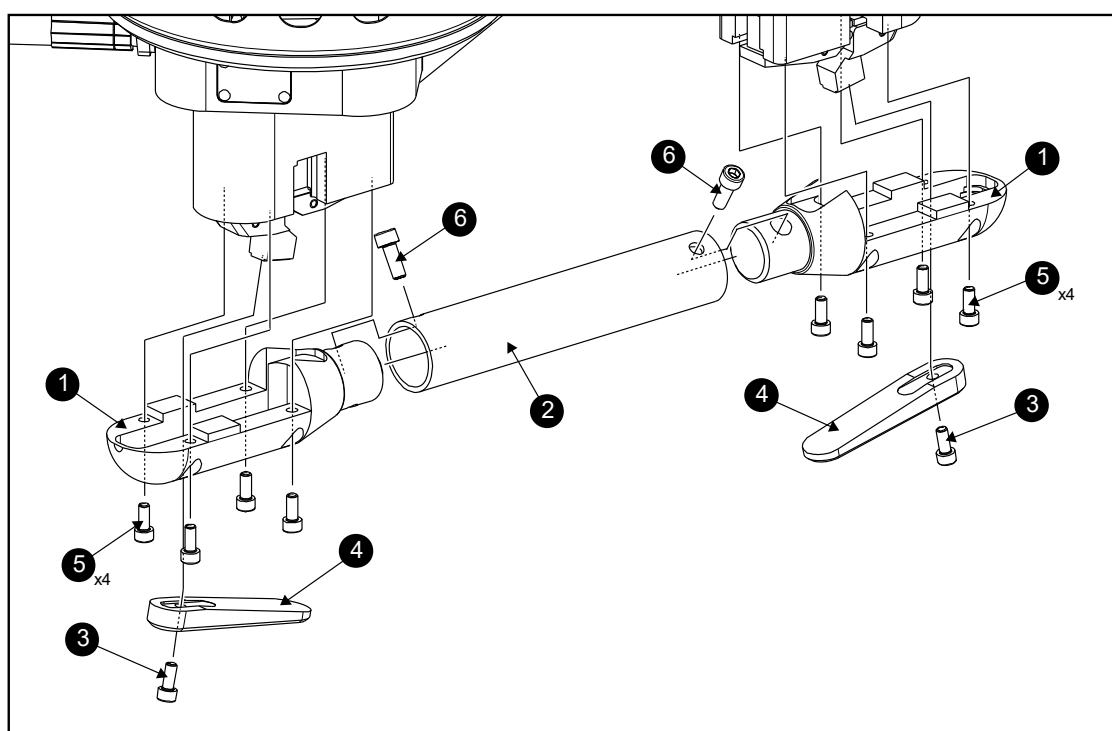
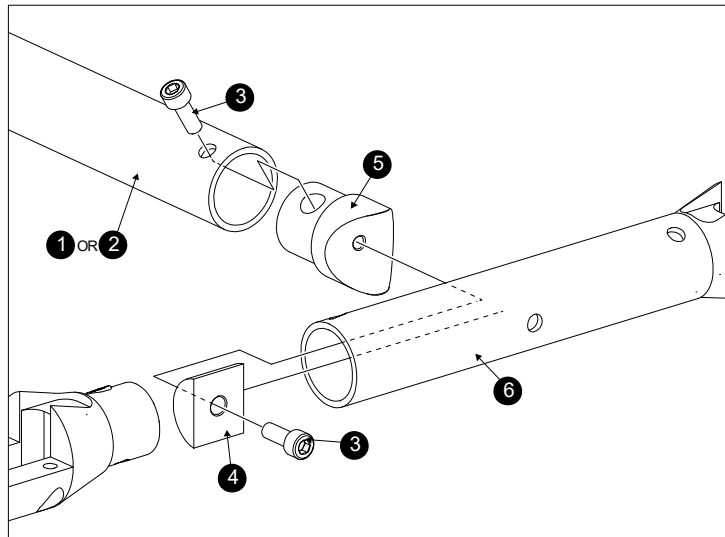

Figure 4a - Handle Bar and Liquid Fire Handle Assemblies
Figure 4b - Triple/Quad Handle Bar Subassembly
The procedure is common to all burner assemblies (Double/Triple/Quad). Refer to figure 4a and proceed as follows:
- Using a 4mm Allen key, undo and remove the screws (Figure 4a, item 3) securing the liquid handles (Figure 4a, item 4). Release the handles.
- Using a 4mm Allen key, undo and remove the four screws (Figure 4a, item 5) holding each handle bar end (Figure 4a, item 1).
Once removed from the burner, the Handle Bar Assembly can be disassembled loosening the screws (Figure 4a, item 6) which hold the tube(s) (Figure 4a, item 2) with the ends (Figure 4a, item 1). These screws can be accessed from the holes in the handle bar. On the triple and quadruple burner assemblies, the tube arrangement may be dismantled as shown in Figure 4b: